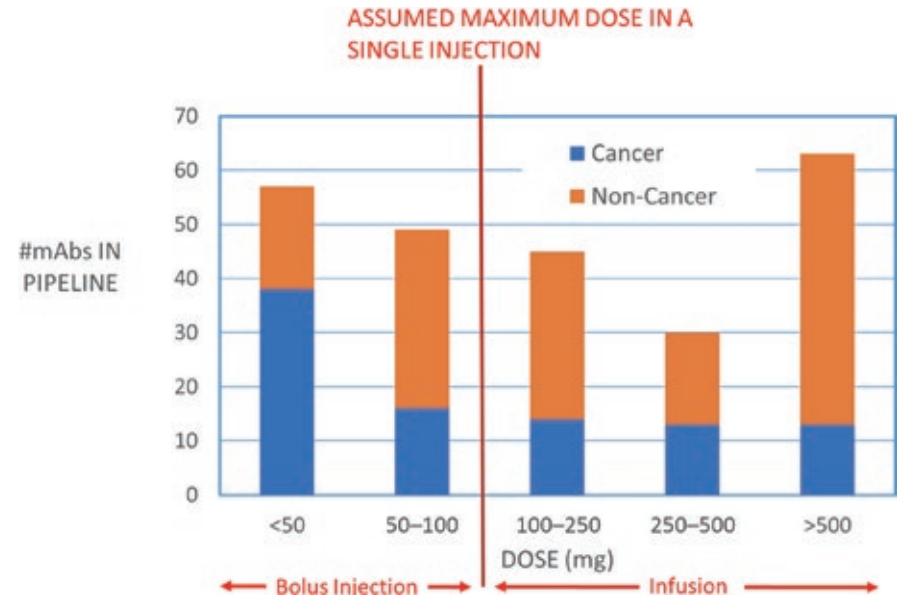

Figure 3: Drug pipeline data from 2008 by dose.
market and, in contrast to autoinjectors, no dominant design has been established. Figure 3 shows that some of the needs of high-dose delivery anticipated in 2008 have been addressed by increasing drug concentrations up to 150 mg/mL and drug volumes of up to 2 mL. More recently, there has been increasing interest in moving drugs that are currently delivered as an IV infusion to subcutaneous (SC) injection at a local clinic, or even in patients' homes. With this trend in mind, a recent systematic review of clinical-stage and approved IV and SC biopharmaceuticals identified 186 biopharmaceutical candidates that would potentially be suitable for large-volume SC delivery with volumes of >2 mL, representing around 15% of all IV and SC biopharmaceuticals.¹ It then becomes a question of what the best way is to deliver these doses. On-body devices can deliver a wide range of drug volumes over a variety of delivery times, so could address this need; however, compared with autoinjectors, their usability is less well established and the technology less well proven. To support ease of use, current devices usually have an integrated cannula insertion mechanism and an adhesive means of attaching the device to the body during use.